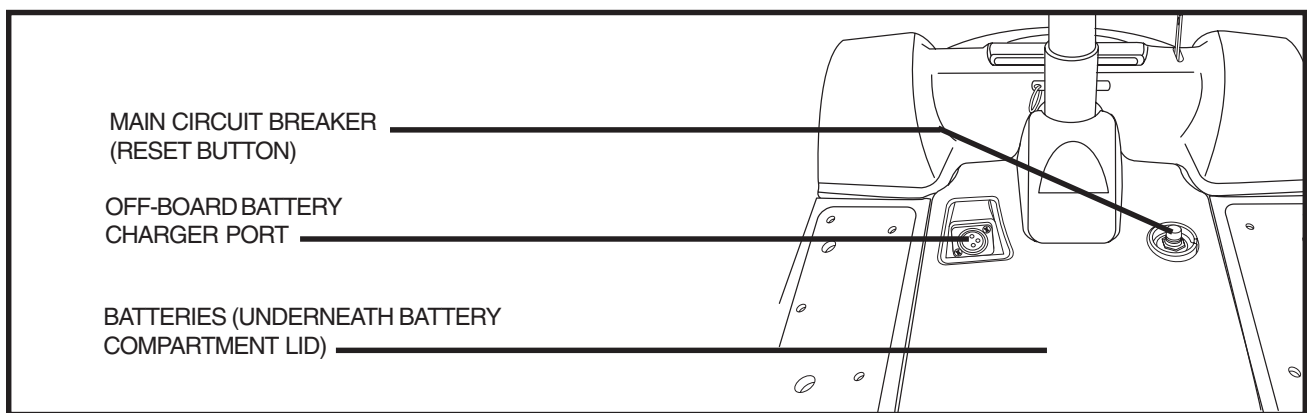
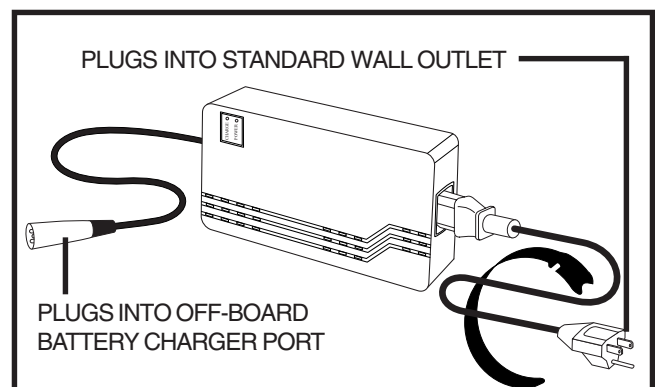

Figure 8. Battery Charging Components
Figure 10. Off-Board Battery Charger
The batteries, off-board battery charger port and main circuit breaker (reset button) make up the battery charging components. See figure 8.
5. Plug the 3-pin charger power lead (see figure 10) into the off-board battery charger port. See figure 8.